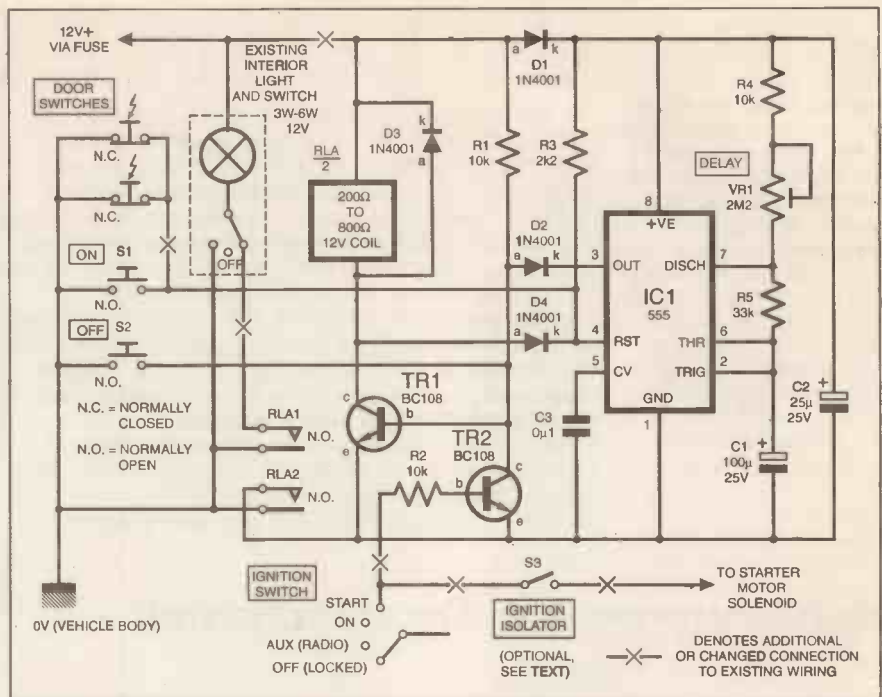

Fig.2. Circuit diagram for a Versatile Car Interior Light Delay. (Be aware that altering the vehicle wiring may invalidate any warranty – check first.)
**M**ANY cars manufactured these days include an interior light ("dome light" in the USA) delay unit as a standard feature, but the circuit diagram of Fig. 2 was devised to fit an older vehicle without one. The unit uses a 555 timer in its astable mode and a useful automatic cancel feature is also included.